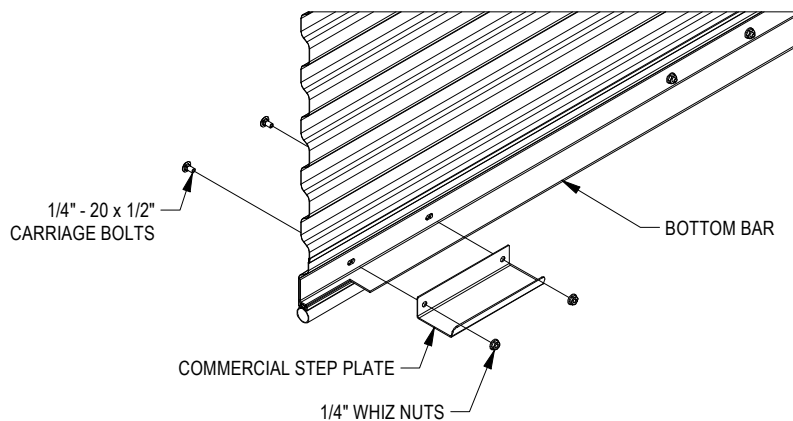

FIGURE 17:
- ▶ For motor operated door, install commercial step plates only. **See Figure 17.**